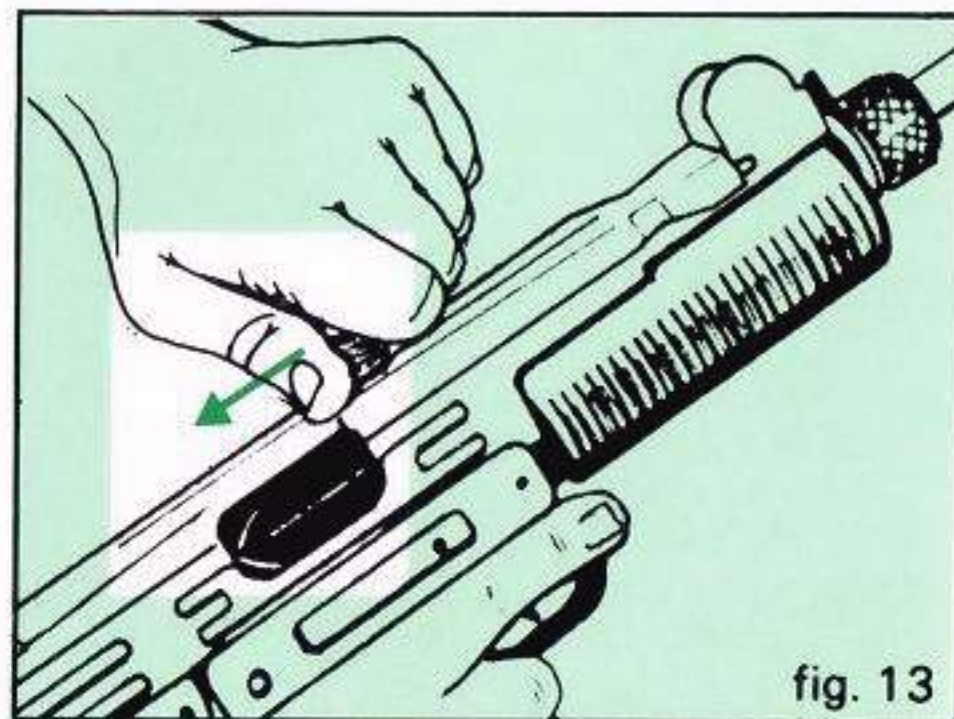

fig. 13
4. While fully depressing the grip safety, pull cocking knob all the way back and release knob instantly to allow bolt to snap forward. (fig. 13).